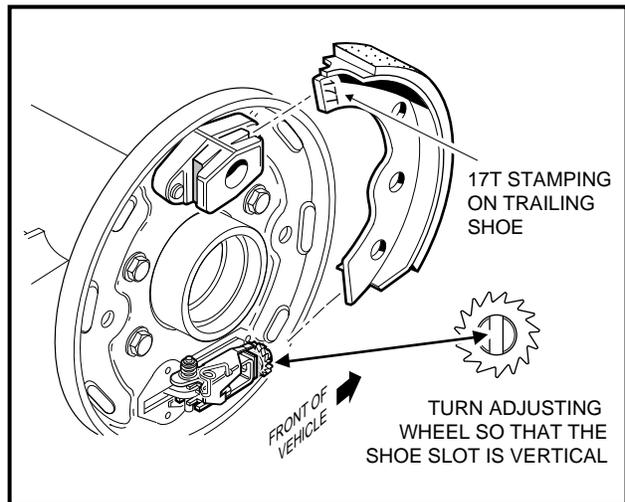

Figure 6-12 Install Adjuster Wheel, Trailing Shoe
- Turn the adjusting wheel so that the shoe slot is vertical, then position the trailing shoe in the slots in the shoe mounting block and adjuster assembly (**Figure 6-12, Page 6-6**). **See following NOTE.**
- THE TRAILING SHOE HAS **17T** STAMPED INTO THE TIP OF THE SHOE FLANGE (**FIGURE 6-12, PAGE 6-6**). THE LEADING SHOE IS STAMPED **17L**. WHEN INSTALLING THE SHOES, THE STAMPING ON BOTH SHOES SHOULD BE ORIENTED TO THE TOP OF THE BRAKE ASSEMBLY. WHEN INSTALLING THE SHOES ON THE PASSENGER SIDE OF THE VEHICLE, THE SIDE OF THE TRAILING SHOE FLANGE MARKED **17T** SHOULD BE FACING OUT AND BE VISIBLE. ON THE DRIVER SIDE, THE **17L** ON THE LEADING SHOE SHOULD BE FACING OUT AND BE VISIBLE.